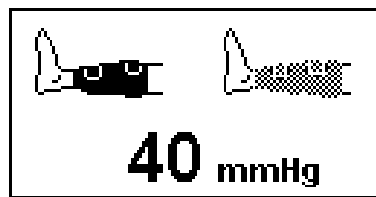

Figure 16 - LCD Display - Therapy Started
- 3.3 Press the green **Run** button  on the top of the pump to start the pump, and keep it depressed until the pump “beeps”. The green LEDs on the front of the pump will illuminate and the compressor will start. Figure 16 shows the pump running, and the left calf garment inflated to 40 mmHg.